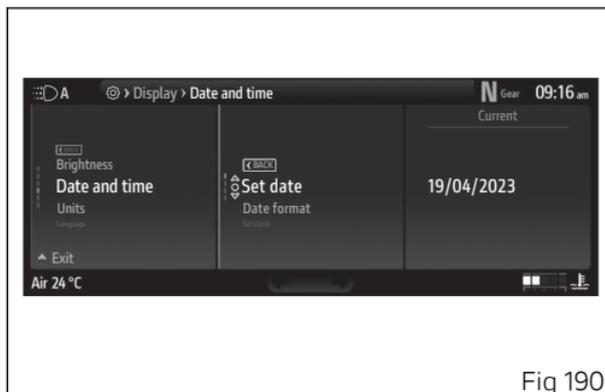

Fig 190
Options “Set date”, “Date format”, and “Set time” are displayed. The current setting is shown on the right side (Fig 190).
- Select the “Set date” item (Fig 190) and press ○ .